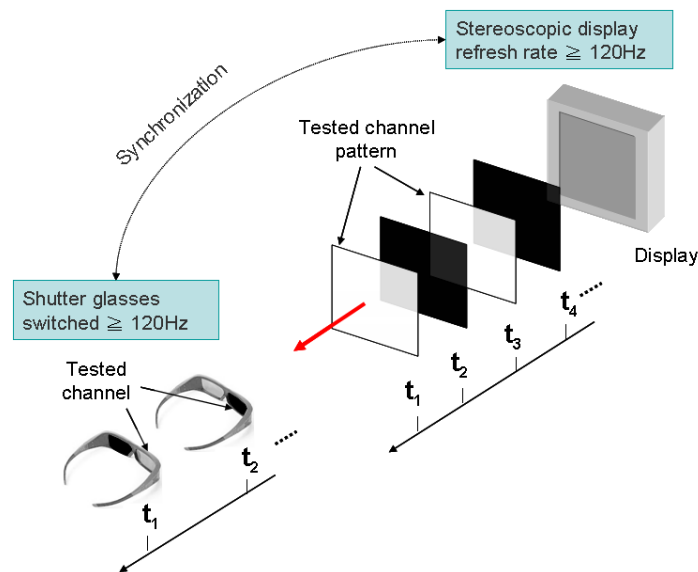

Figure 2
4.2.3 *system black crosstalk (SBC)* — system crosstalk while the tested channel patterns is full-screen white and the un-tested channel patterns is full-screen black (shown in Figure 2).